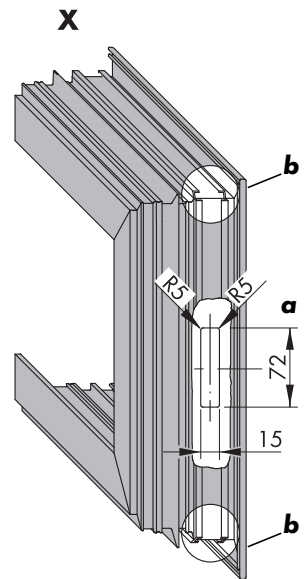

Figure 2
- b** Open operating rod guiding groove.(Figure 2).